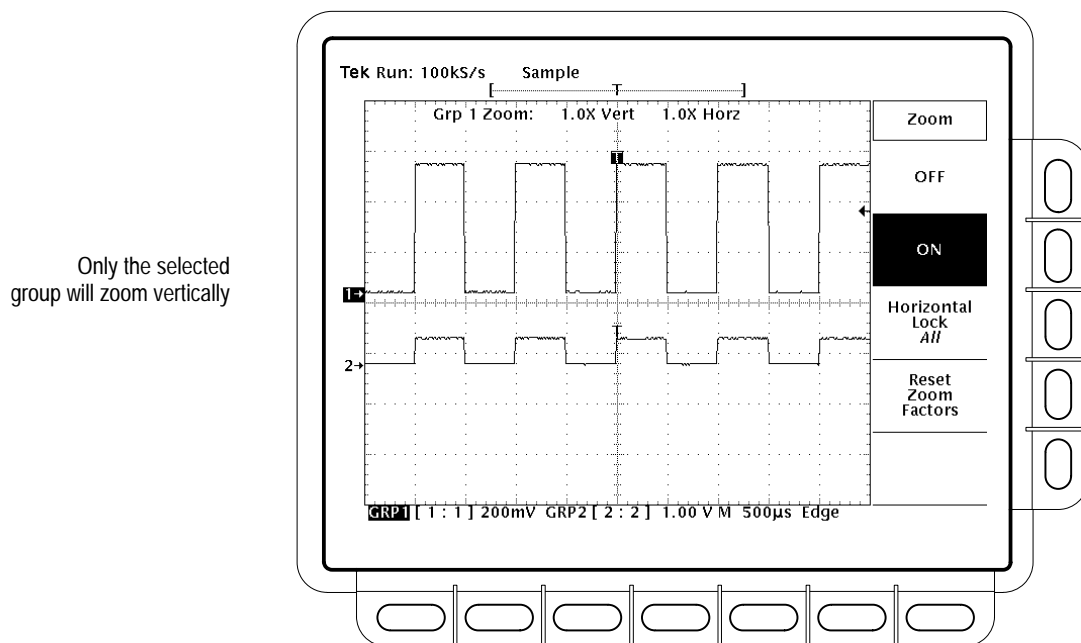

Figure 3-78: Zoom Mode with Horizontal Lock Set to *All*
The zoom readout appears at the top of the display when zoom is on. See Figure 3-78 on page 3-177.
*Group* — only the group currently selected can be magnified and positioned horizontally (Figure 3-78).